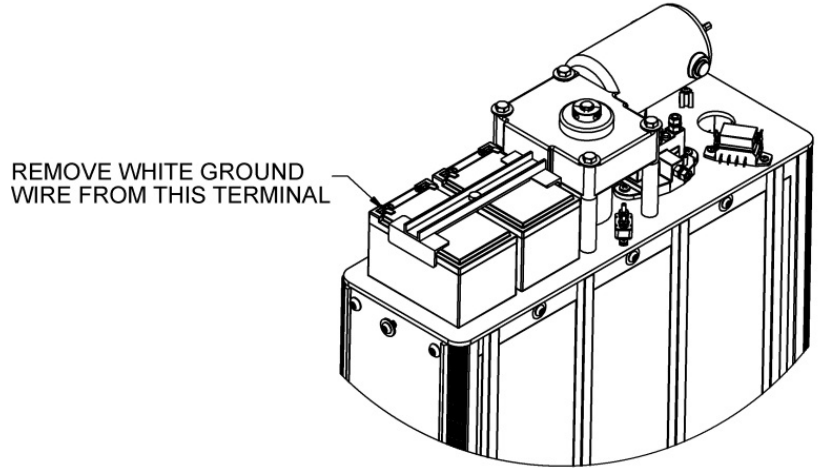

FIG. 17.2
5. Disconnect the white ground wire from the battery terminal (FIG. 17.2).